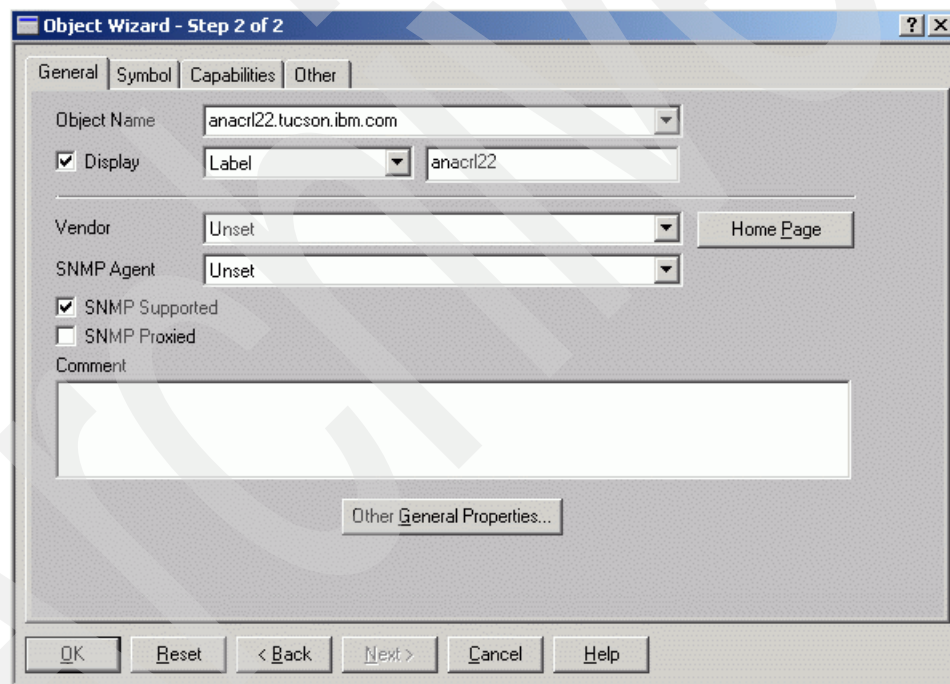

Figure A-17 Tivoli NetView: Create new Object
1. Create a new object on your NetView console. Enter an Object Name and a Label Name (see Figure A-17).